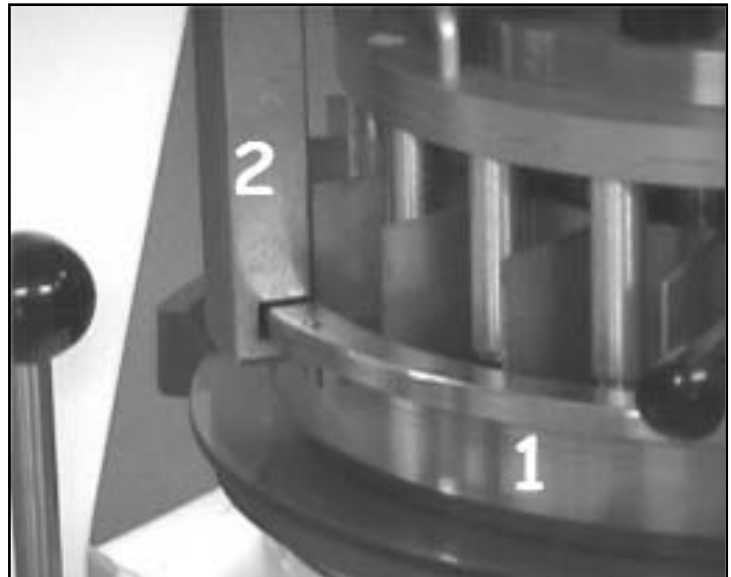

Figure 8
3. Hold handle in this position, grasp outer edges of the ring (Fig. 8, No. 1) keep fingers out of the divider/plug area. Rotate ring $\frac{1}{4}$ turn until slots are in line with the arms (Fig. 8, No. 2).
5. Remove ring (Fig. 8, No. 1) from machine, set ring aside on work bench. Do not drop or bump ring, as this can cause nicks or other damage to ring.